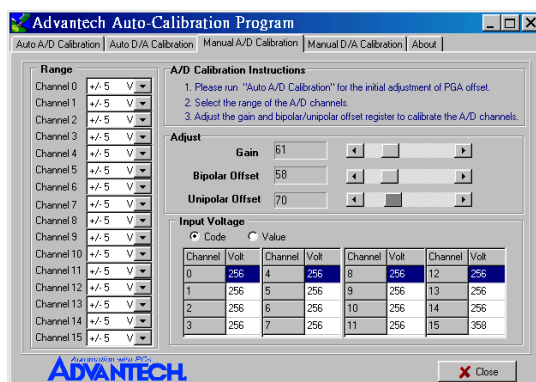

Figure 5-16: Adjusting registers
Step 2: According to the difference between reference voltage and receiving data in PCI-1716/1716L, adjust the gain, bipolar offset and unipolar offset registers (Figure 5-16)